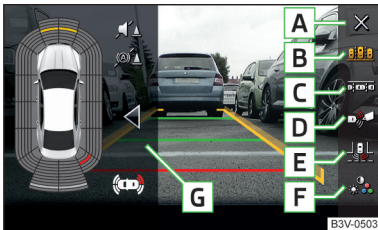

Fig. 279
Functional surfaces » Fig. 279
- › Tap the function surface **C** » Fig. 279 on page 226.